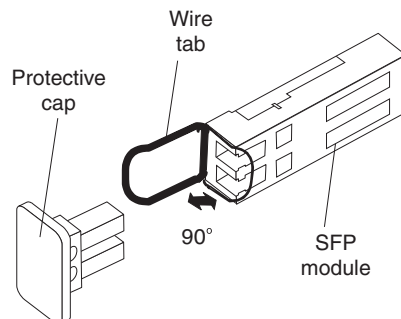

Figure 60. Unlocking the SFP module latch - wire variety
- For SFP modules that contain wire tabs, unlock the SFP module latch by pulling the wire latch outward 90°, as shown in Figure 60.